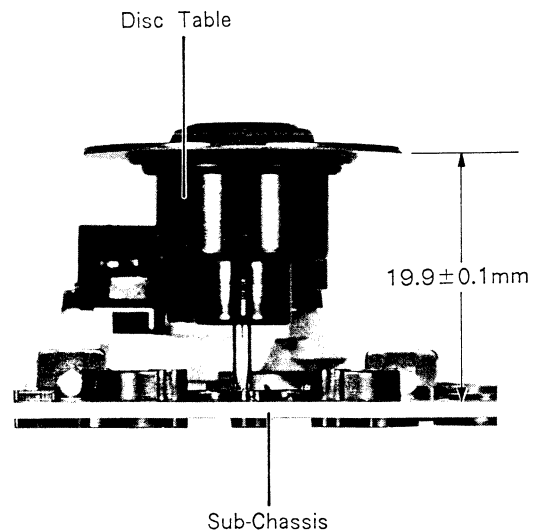

Figure 11
(1) By grasping plastic part, lift the disc table straight up without applying pressure to metal part.
**Note:** For assembling the disc table, insert the disk table with pressure so that the height from the disc table top to the sub-chassis surface becomes  $19.9 \pm 0.1$ mm in Figure 11.